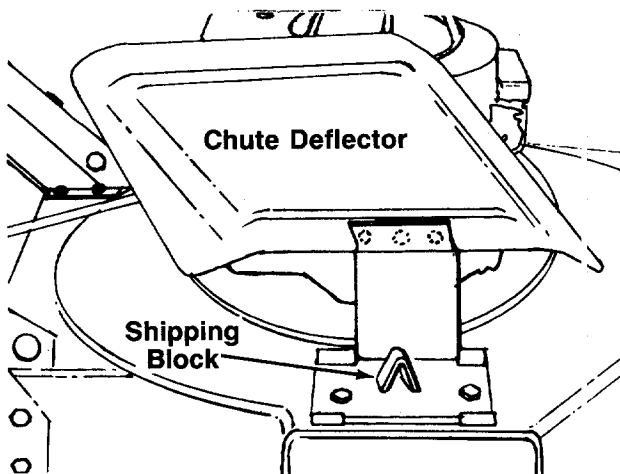

FIGURE 5.
1. The chute deflector on your mower is held in an upright position by a shipping block. This block is used for shipping purposes only. It **must** be removed and discarded before the mower is put into operation. See figure 5.